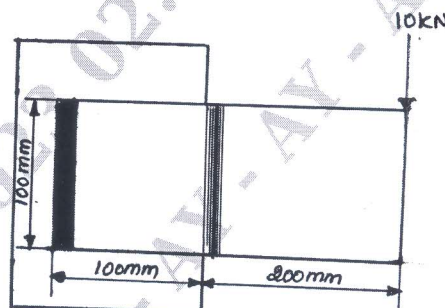

Fig Q8(b)
- b. A welded connection as shown in Fig Q8(b). If the allowable stress is 100N/mm^2 , determine the size of weld. (10 Marks)